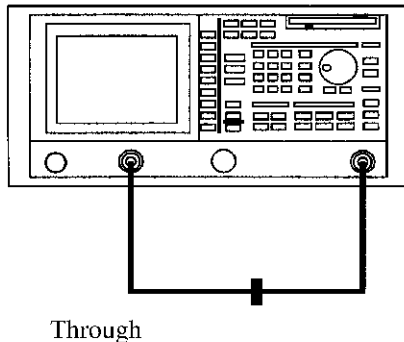

Figure 2-84 Setup for TG Measurements
1. Connect the unit under test as shown in Figure 2-84.